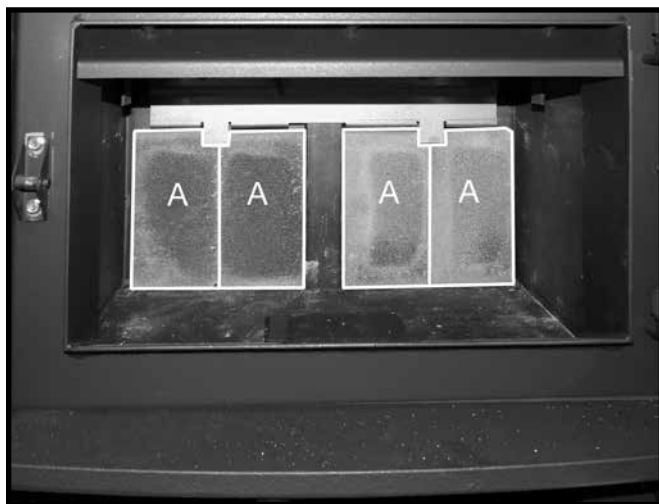

Figure 24: Remaining rear wall firebricks in place.
3. Repeat steps 1 & 2 for the placement of the other "A" firebricks on the rear wall (Figure 24).